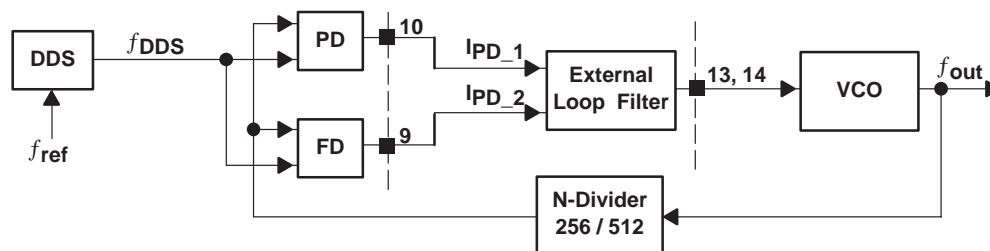

Figure 18. Basic PLL Structure
The phase-locked loop (PLL) of the TRF6900A consists of a phase detector (PD) and a frequency acquisition aid (FD), two charge pumps, an external loop filter, a voltage controlled oscillator (VCO), and a programmable fixed prescaler (N-divider) in the feedback loop (see Figure 18).